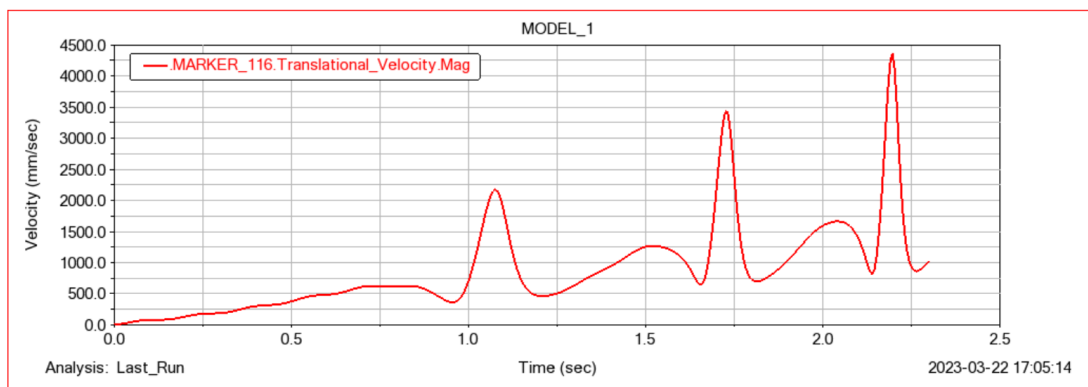

Fig. 10: Velocity for sine force vs time
1. Velocity plot is shown in fig 10